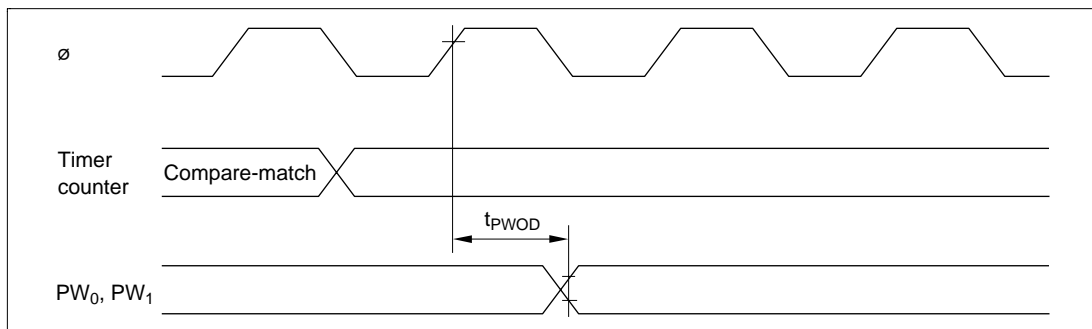

Figure 23.18 PWM Timer Output Timing
23.5.5 PWM Timer Timing	Figure 23.18